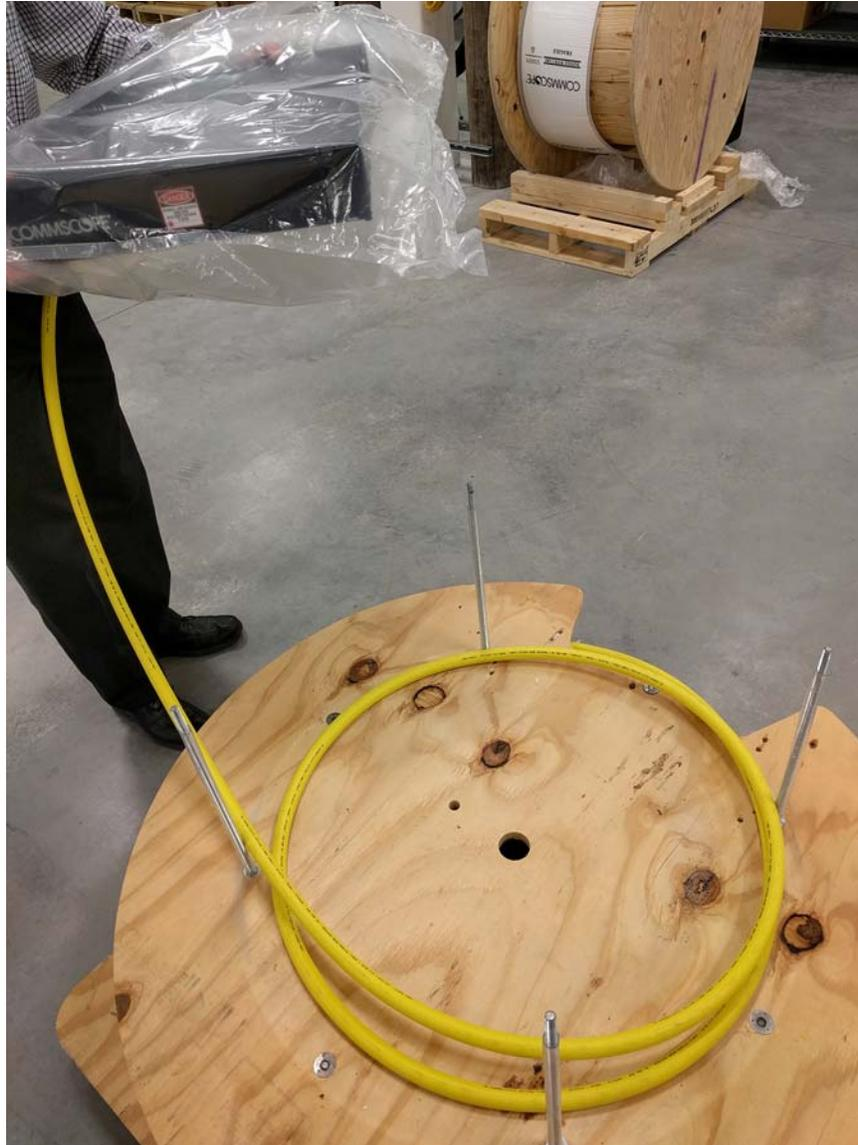

Figure 11. Shipping Carton Containing Accessories
11. Lift the panel off of the spool and carefully uncoil the remaining cable, as shown in Figure 11.